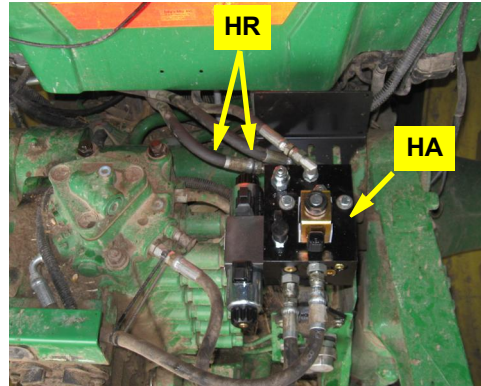

Figure 4b: Steering output hoses connected to A and B ports on the steering block (LS hose and P and T hoses also shown connected - see step 8).
- b. Connect the steering output hoses **HR** to the **A** and **B** ports of the hydraulic steering block (Figure 4b).